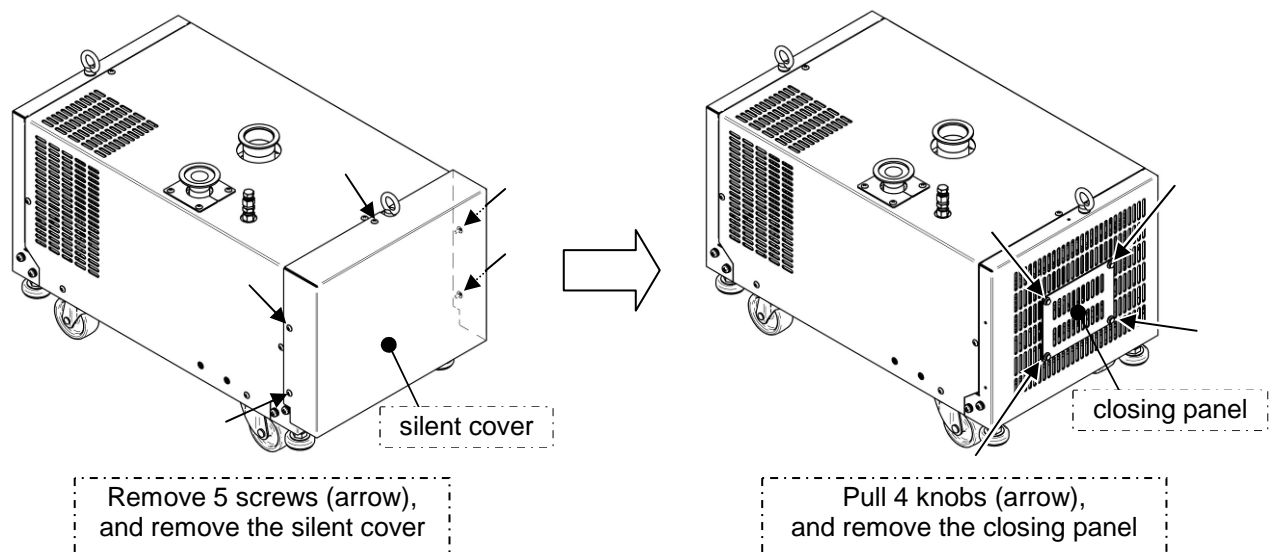

Fig. 6.1 How to remove the closing cover
- (1) Stop the pump and remove the closing panel (rear side) on the pump.(See Fig. 6.1)